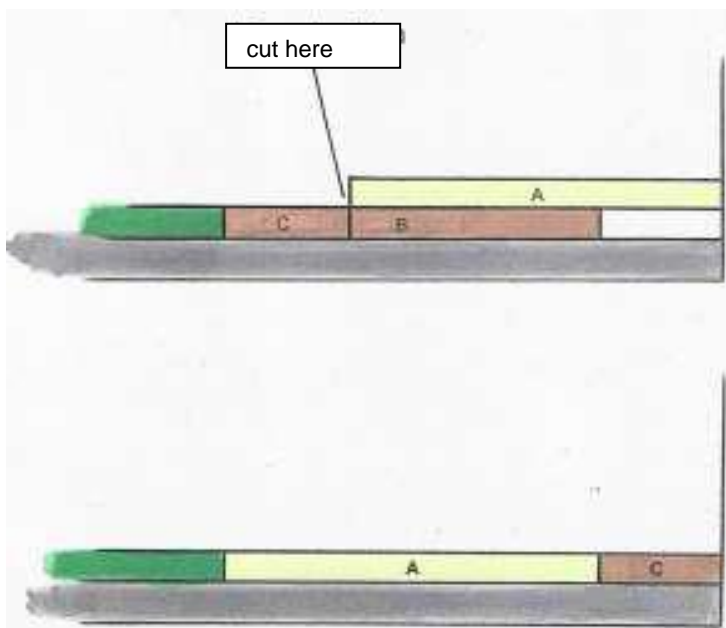

Fig. 06: Laying
- However, you can also place the element that is supposed to be adjusted on top of the last complete carpet tile laid out so that it butts up exactly against the wall. Now you can cut the carpet tile below with a knife, possibly with the help of a rail. Then simply exchange the positions of the two carpet tiles (Fig. 06).